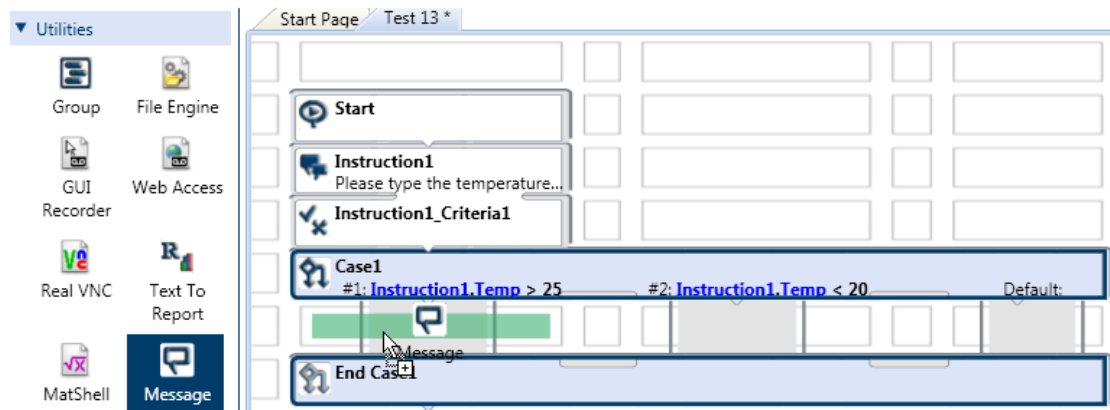

Figure 9 - adding a message to the "TOO HOT" flow
- n) From the utilities stencil, add a *MESSAGE* box to each condition flow (see Figure 9 - adding a message to the "TOO HOT" flow)